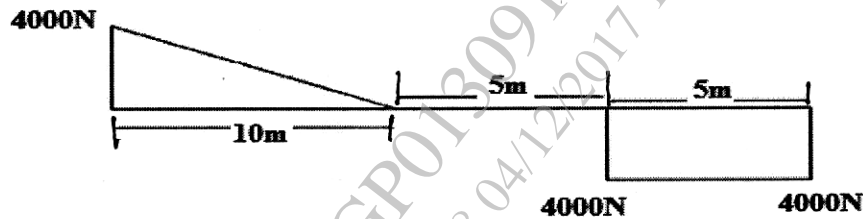

Fig. 8
- (b) The beam AD Simply supported at ends is having SFD as shown in fig. 8 Draw loading diagram. Hence plot BMD. [7]